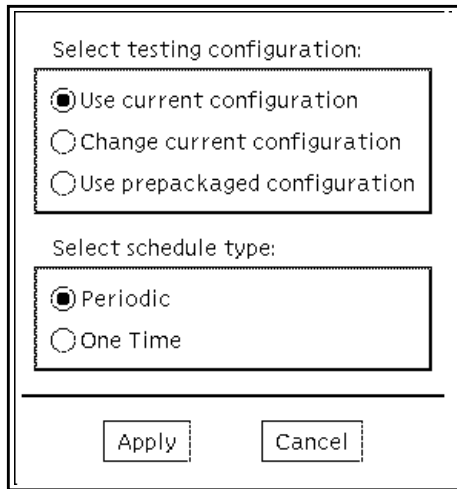
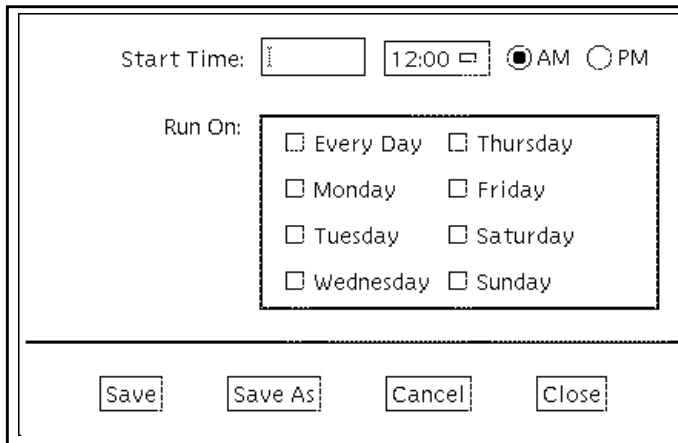
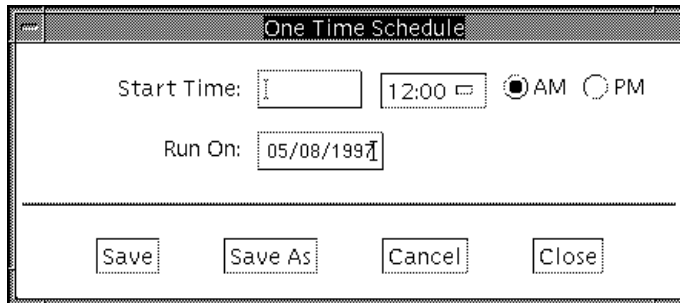

FIGURE 3-9 Create Option Under the Schedule Menu
FIGURE 3-11 Periodic Schedule Form Display
FIGURE 3-12 One Time Schedule Form Display
The following screen is displayed (see FIGURE 3-9).
3. Select the schedule type (Periodic or One Time) on the bottom of the screen shown in FIGURE 3-9.
- If you select “Use current configuration,” you will next see the screen for either testing type: Periodic (see FIGURE 3-11) or One Time (see FIGURE 3-12.)
- FIGURE 3-11 if you checked Periodic in FIGURE 3-9
- FIGURE 3-12 if you checked One Time in FIGURE 3-9
5. **Fill out the schedule then click on Save or Save As with the left mouse button (see FIGURE 3-11 or FIGURE 3-12).**